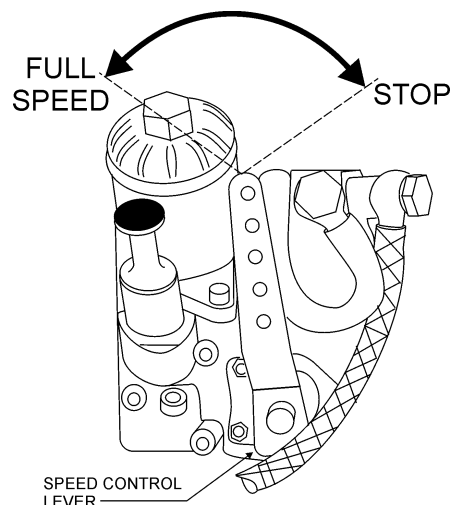

Figure 16. Speed Control Lever
1. Set the **Speed Control Lever** (Figure 16) to a position half way between start and stop.